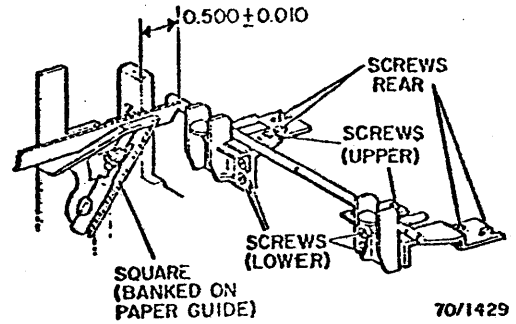
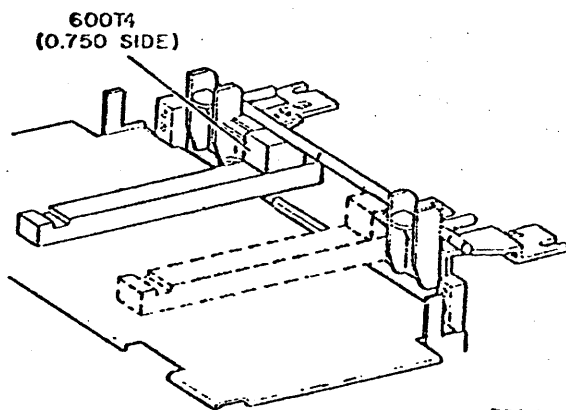

Fig. 3-77. Front Fluffer and Snubber Brackets
Fig. 3-82. Front Fluffer Height
- Bank the square against the paper guide (Fig. 3-77). The fluffer tube should be within 0.010 of the end of the rule.
9. Place the parallel bar and tool 600T4 as in Fig. 3-82. The bottom of the fluffer tube should be flush with the top of 600T4 within 0.030.
1. Adjust the snubber brackets to obtain the 1/2-inch dimension using the rear screws (Fig. 3-77).
2. Adjust the assembly to the correct height (Fig. 3-82) and secure the lower four screws (Fig. 3-77).